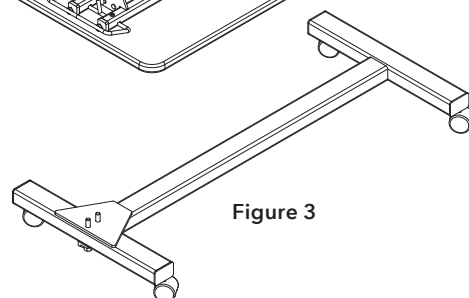
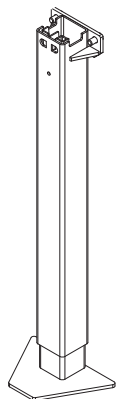

Figure 3
Figure 2
2. Raise Trip Handle to an angle of approximately 40 degrees. Next, insert Column into the Top Support Bracket, ensuring that the rectangular notches are aligned with the Top Bracket Embossing (See Fig. 2). Ensure that the Trip Handle tab is in the Trip Channel in the Column (See Fig. 3). Attach securely using 3/4" Long Bolts and Lock Washers.